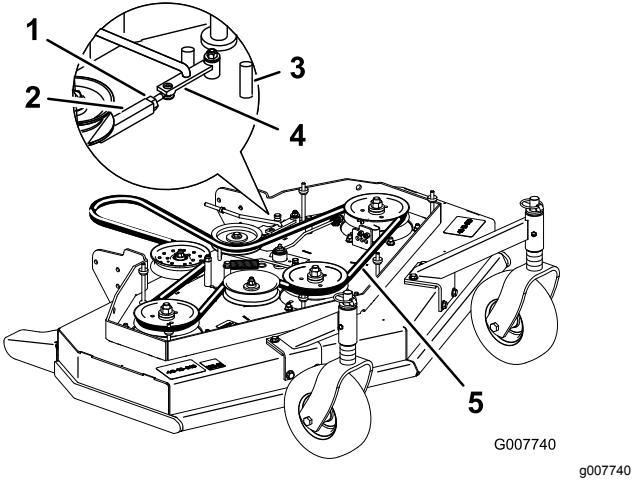

Figure 46
3. Loosen the locknut on the turnbuckle (Figure 46).
Rotate the turnbuckle toward the front of the mower deck to decrease the tension on the belt (Figure 46).